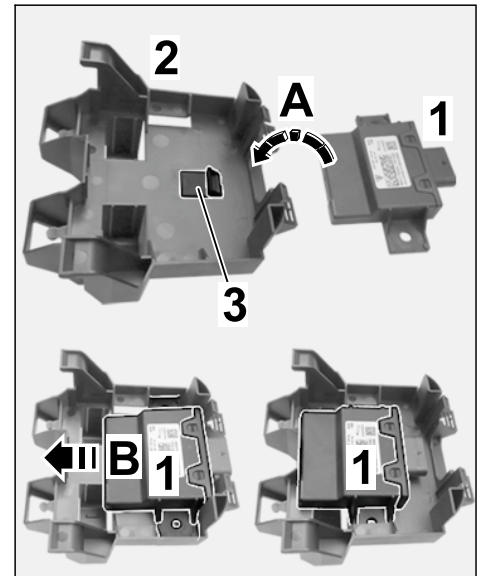

Figure 10
2.4 Insert new engine noise control unit at the underside in the control unit holder (⇒ *Figure 10-A*).